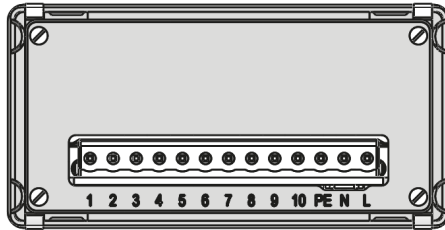

Fig. 2: Pin outs (PP-, OC-output circuit, without interfaces and without switching output) for incremental, speed, number of pieces
- 1x 13 pin coupler strip (see Fig. 2).